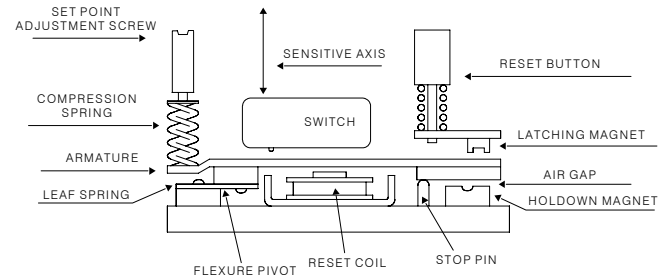

Figure 4-1
The Vibraswitch (ref. Figure 4-1), is sensitive to vibration in a direction (the sensitive axis) perpendicular to its mounting base. It contains a vibration detecting mechanism, which also functions as a “mechanical amplifier”, to activate a snap-action switch when the selected level of vibration is exceeded and the detecting mechanism “trips”.
With the equipment on which the Vibraswitch is mounted **not** operating, back off the Setpoint adjusting screw counterclockwise (CCW) two turns and press the reset button. Then turn the Setpoint adjusting screw slowly clockwise (CW) until actuation occurs (the armature assembly is against the latch magnet, Figure 4-1). **This is the zero vibration point**, or actuating point, with the machine not operating. A mark should be made with a lead pencil or other convenient means to permanently record this “zero” vibration point. Subsequent measurements are made relative to this point.
a. Functional Test (Ref. Figure 4-1)
3. **Broken Leaf Spring (Ref. Figure 4-1)** –